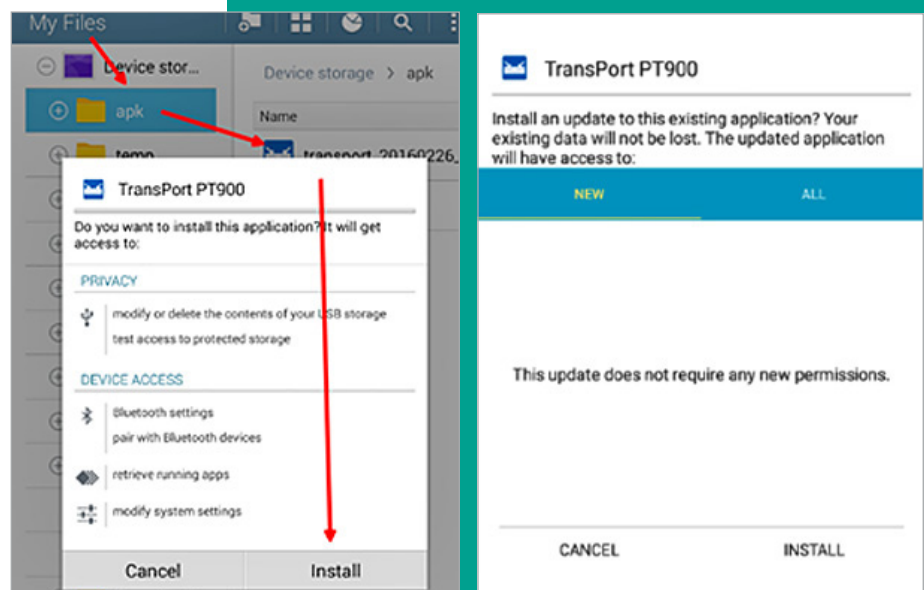

Figure 57: Initial (left) and update (right) installation screens
3. Click on the APK file, and the Android operating system will verify the checksum and signature for the file. Depending on whether this is an initial installation or an update installation, you will see one of the screens shown in Figure 57 at right. Click *install* to begin the installation.